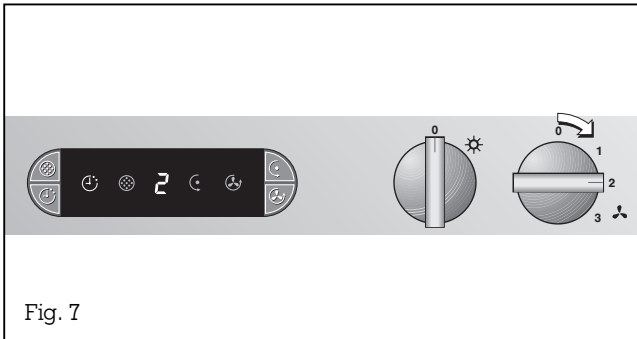

Fig. 7
- Turn the "Ventilation level" control knob to the ventilation level you require (Fig. 7).